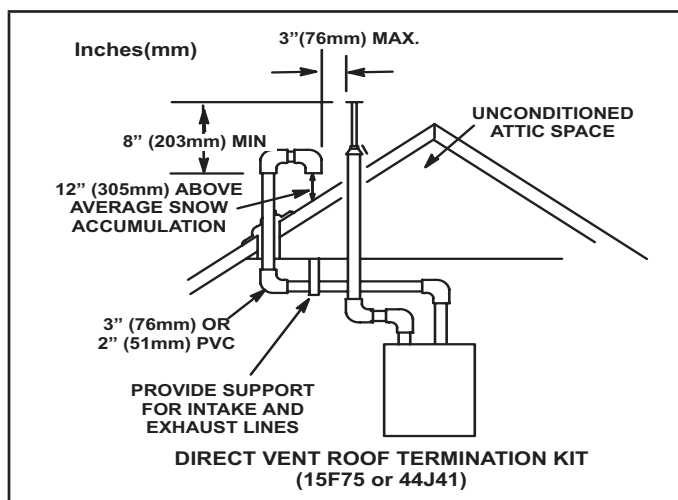
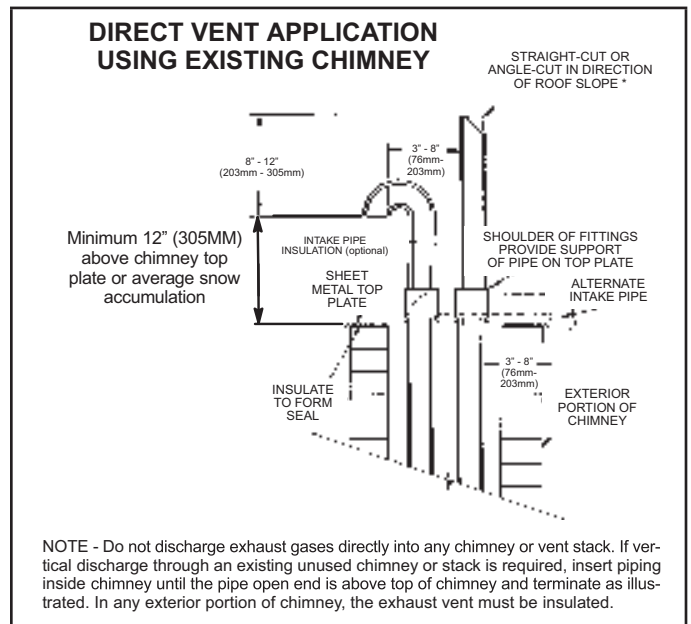

FIGURE 26
FIGURE 34
Intake and exhaust pipes may be routed either horizontally through an outside wall or vertically through the roof. In attic or closet installations, vertical termination through the roof is preferred. FIGURE 26 through FIGURE 34 shows typical terminations.
- 3 - On roof terminations, the intake piping should terminate straight down using two 90° elbows. See FIGURE 26.